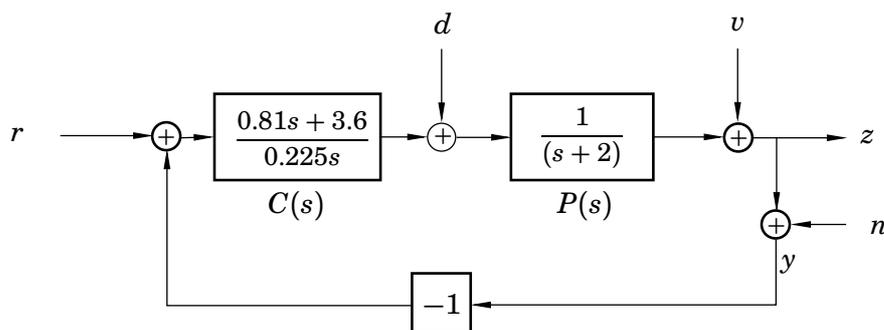

Figure 3.3 System in Problem 3.3.
- 3.3 A feedback system is shown in Figure 3.3.